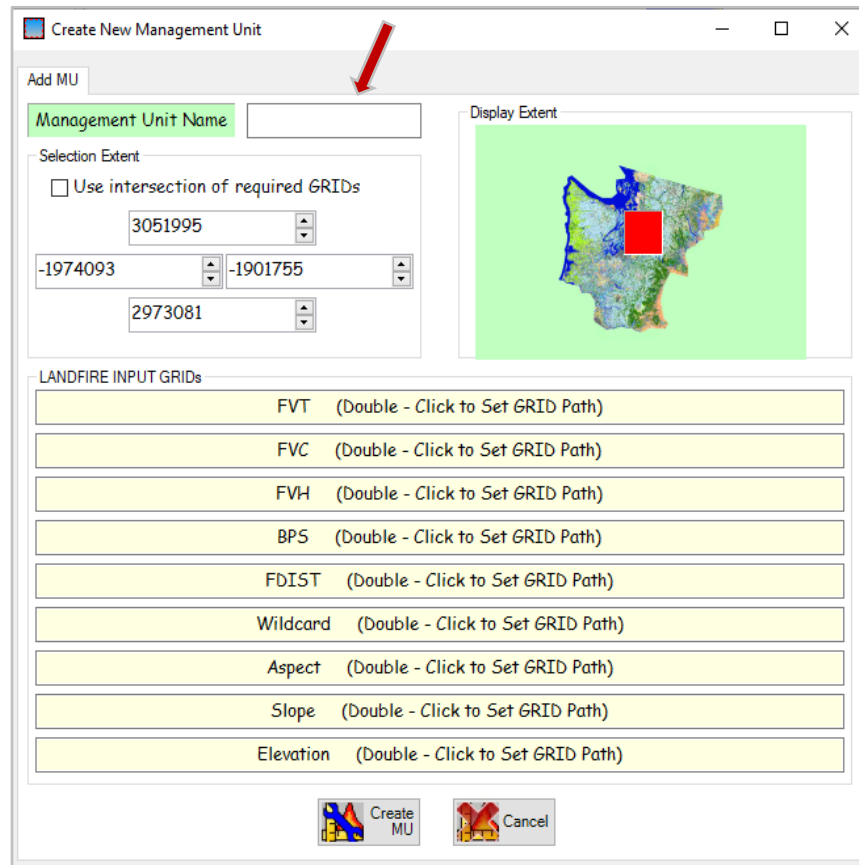

Figure 6-6. Select the Management Unit Name (**ADD MU** screen visible).
The **Add Management Unit** dialog box opens as shown (Figure 6-6).
- To use the drawing rectangle, drag your cursor to draw an extent rectangle in the “Display Extent” window of the dialog box (Figure 6-6).
- With the **Add MU** tab selected, type a **Management Unit Name** in the box provided (Figure 6-6).
- When you have completed filling out the **Add Management Unit** dialog box, click the **Create MU** button at the bottom of the **Add MU** page (Figure 6-6).